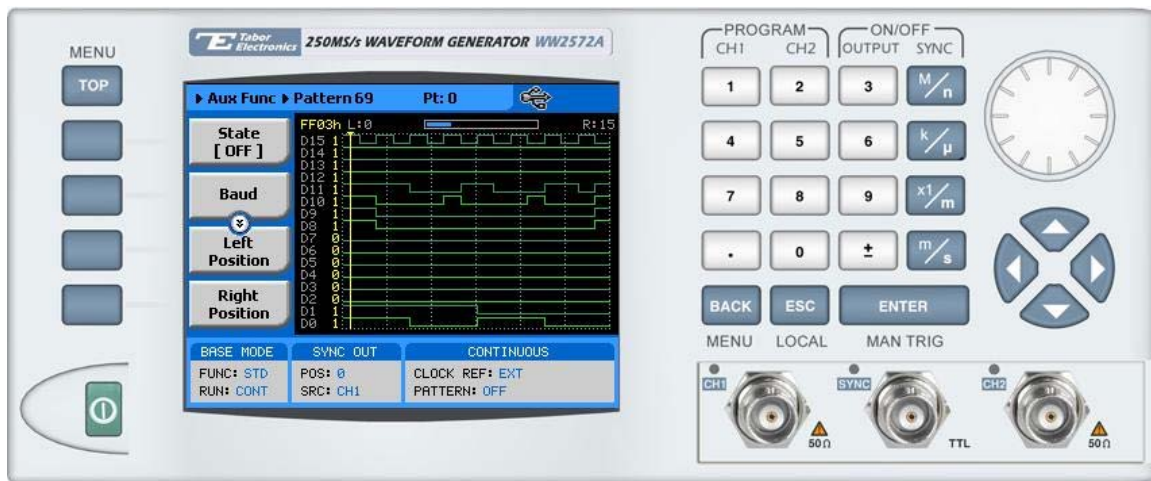

Figure 3-58, the Digital Pattern Menus
4. Press the Enter button to select the counter/timer function Figure 3-58 shows the counter/timer panel and menus.